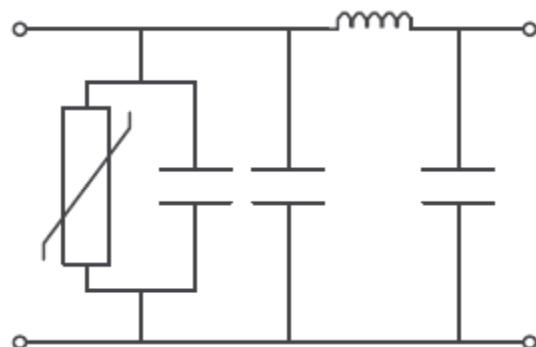

Fig. 5 MOV protected Pi filter
3. A balanced or unbalanced Pi filter; additional capacitor planars can be matched with the varistor planar to provide equal capacitance either side of the inductor. Fig. 5.